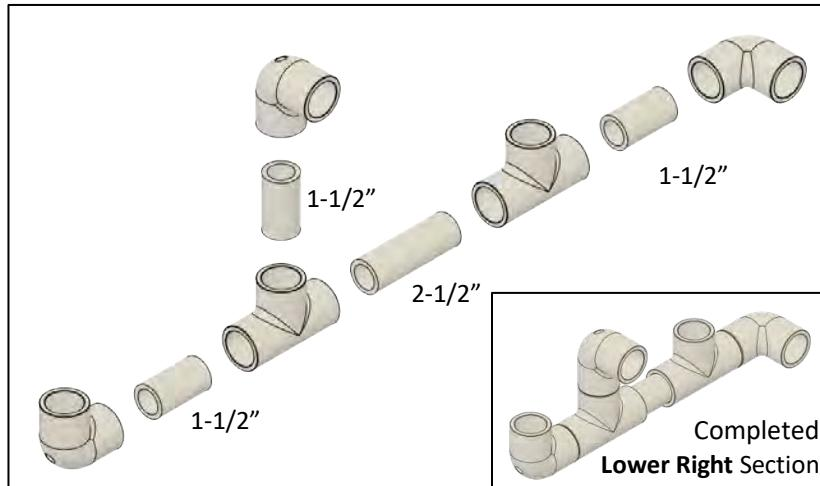
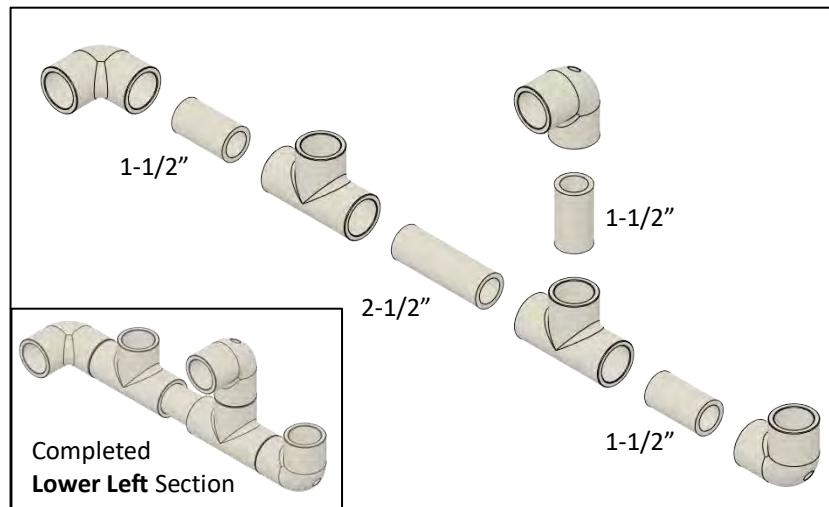

Figure 18
Figure 19
- Assemble the lower right section (Figure 18) and the lower left section (Figure 19). These sections are identical except for the orientation of the upper and lower cross support elbows.